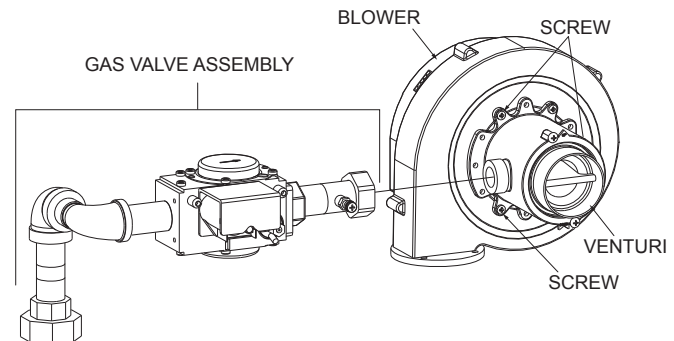

Figure 50. Gas Train Assembly 198AR thru 398A
3. Remove the (3) screws holding the Natural Gas Venturi to the Blower. See Figure 50.